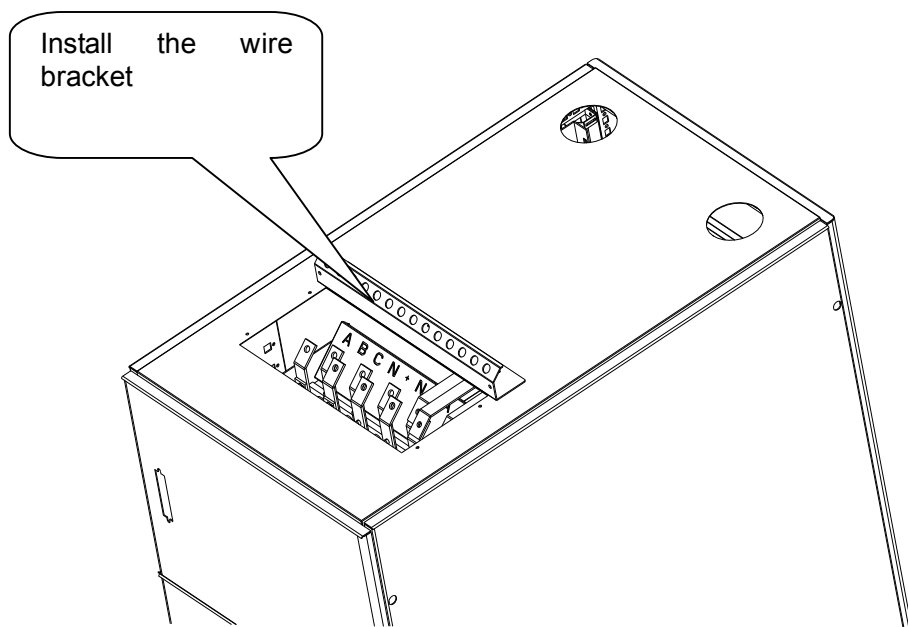

Fig. 6.4
2. Fix the wire bracket on the top cover board of the cabinet with a self tapping screw. (Fig. 6.4)